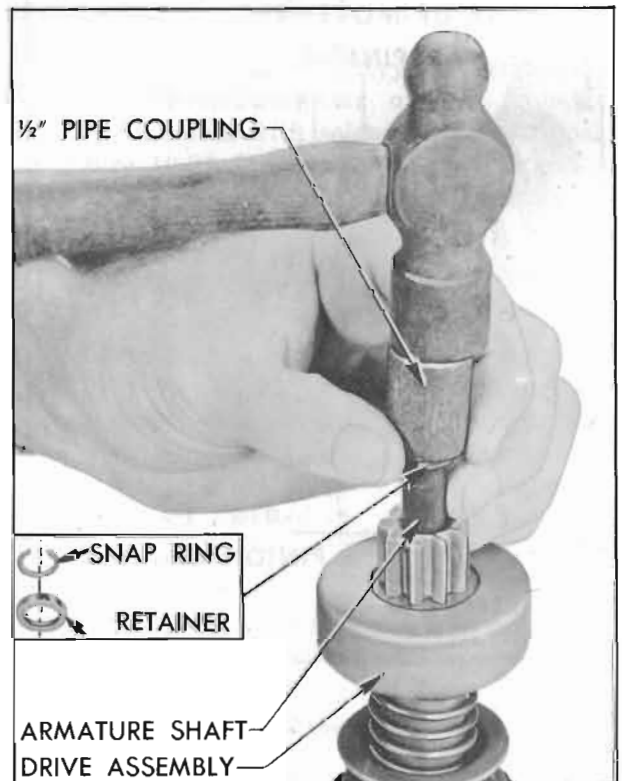

Figure 10-32—Removing Pinion Stop Retainer and Snap Ring
5. To remove drive assembly from armature, place a metal cylinder of proper size ( $\frac{1}{2}$ " pipe coupling will do) over end of shaft to bear against the pinion stop retainer. Tap retainer toward armature to uncover snap ring. See figure 10-32. Remove snap ring from groove in shaft, then slide retainer and pinion drive assembly from shaft. Remove assist spring (364 engine only).